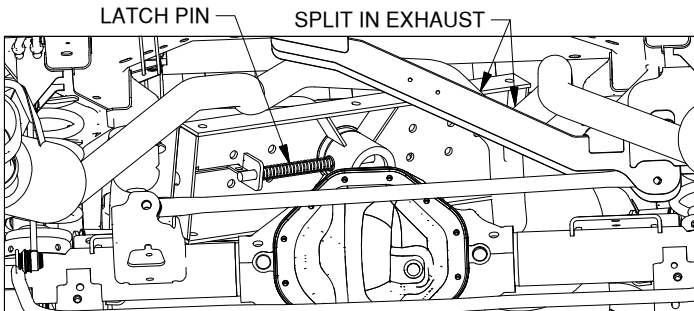
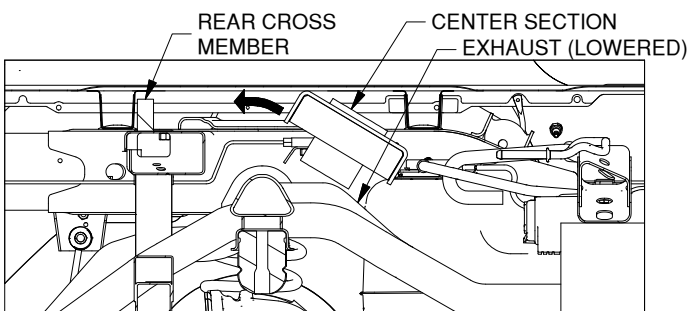

Figure C1: View looking under truck bed toward the cab.
Figure C2: Cut-away view looking towards the inside of the driver side frame.
2. **Position the center section (dual exhaust).** When maneuvering the center into position, the exhaust will need to have downward force applied to it to open up the space below the bed where the center will install. From behind the axle, move the center section over the driver side of the axle toward the passenger side with the latch pin on the driver side. Lift the center up over the exhaust where it splits, as shown in Figure C1. Lower the driver side exhaust and "roll" the center section over the exhaust, as shown in Figure C2. Do not put the 4" diameter raised area of the center into the 4" hole in the bed at this time. Move the center as far toward the rear of the truck and to the passenger side as possible to make room for the front cross member. Position the center in a secure manner so that it will not fall while completing the installation.